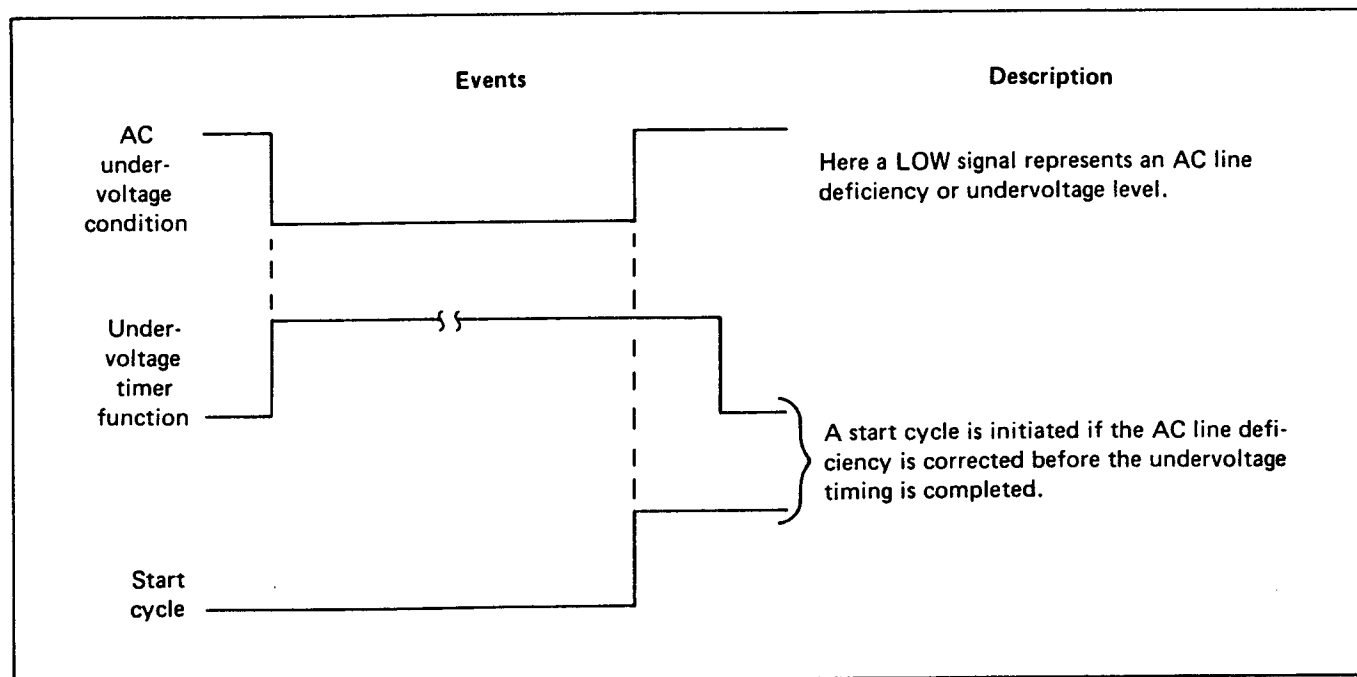

Figure 6.6 — Time Undervoltage Events Diagram
6.20 Time Undervoltage — The time undervoltage function provides the capability to initiate a start cycle after the incoming AC supply is interrupted—that is, drops below 70% of the normal voltage. If the incoming AC supply is restored before the time undervoltage setpoint time has elapsed, a start cycle is initiated. This is utilized with a 3-wire momentary contact START/STOP pushbutton application. It is not necessary with a maintained-contact start control application. (See Figure 6.6.)